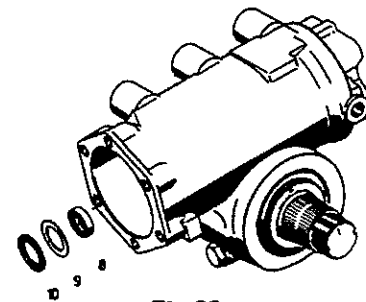

Fig.32
Press shaft seal (8) in as far as possible with tool [14] (**Fig.32**).